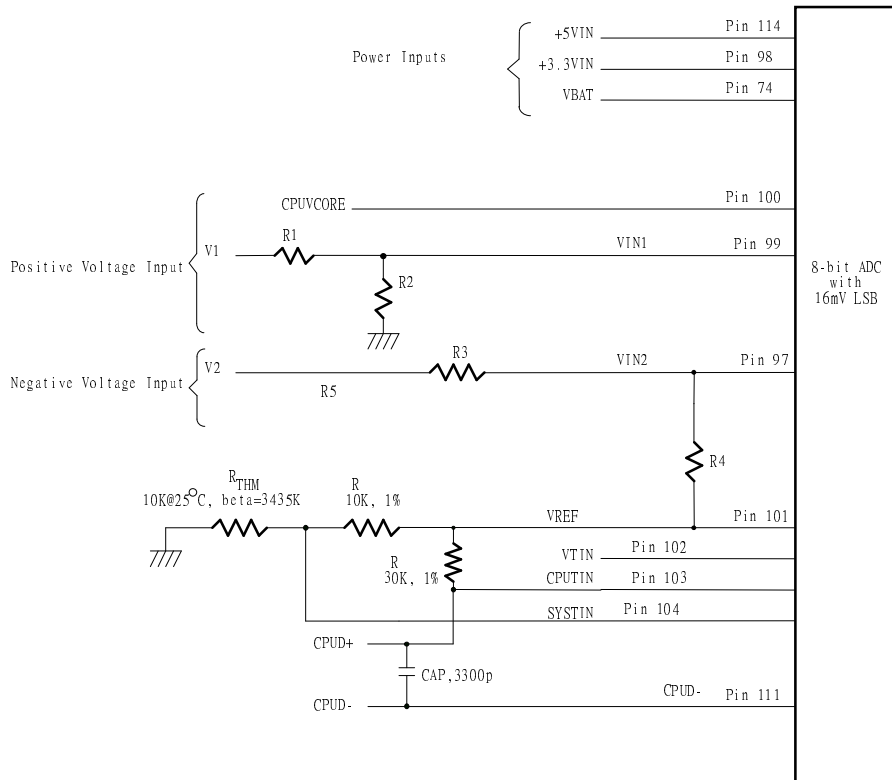

Figure. 6.2
The maximum input voltage of the analog pin is 4.096V because the 8-bit ADC has a 16mv LSB. Really, the application of the PC monitoring would most often be connected to power suppliers. The CPU V-core voltage, +3.3V, battery(pin 74) can directly connected to these analog inputs. The +12V voltage inputs should be reduced a factor with external resistors so as to obtain the input range. As Figure 6.2 shows.
The W83637HF can connect three thermistors to measure three different environment temperature. The specification of thermistor should be considered to (1) β value is 3435K, (2) resistor value is 10K ohms at 25°C. In the Figure 6.2, the thermistor is connected by a serial resistor with 10K Ohms, then connect to VREF (Pin 101).